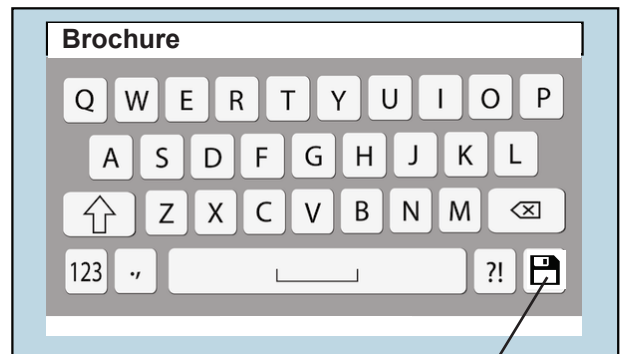

Fig. 15
- Key in the name of the job (Fig. 15) and press the save icon  in the bottom right corner.